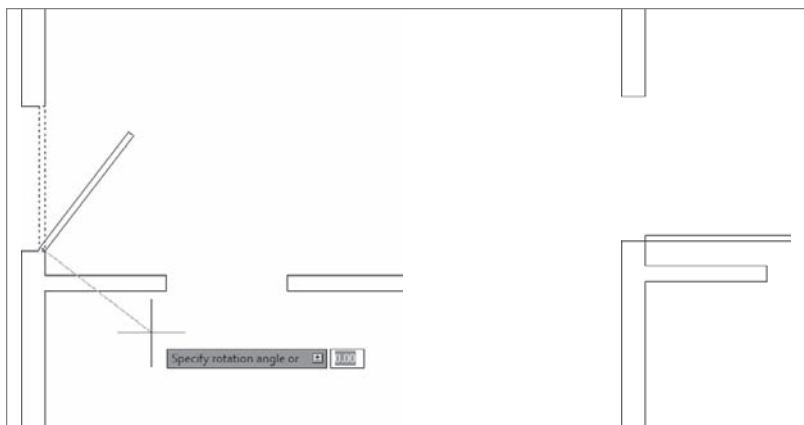

FIGURE 4.47 The door rotating with movement of the cursor (left), and the door after the 90° rotation (right)
6. Move the cursor away from the hinge point, and see how the door rotates as the cursor moves (see the left image in Figure 4.47). If the door swings properly, you're reassured that you correctly selected the base point. The prompt in the command window reads **Specify rotation angle or [Copy/Reference]<0.00>:**, asking you to enter an angle.
7. Enter **-90**. The door is rotated 90° to an open position (see the right image in Figure 4.47).